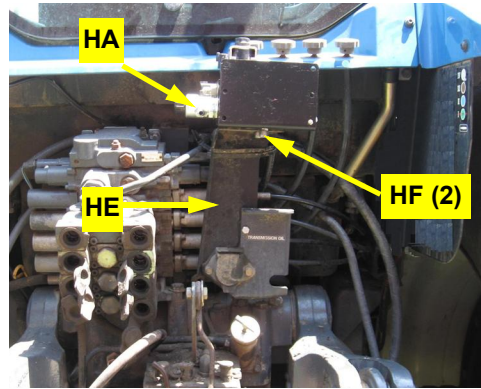

Figure 3: Installed steering block
- a. Place the hydraulic steering block **HA**, with its **A** and **B** ports toward the right rear fender. Using hardware **HF** secure **HA** to bracket **HE** (Figure 3).